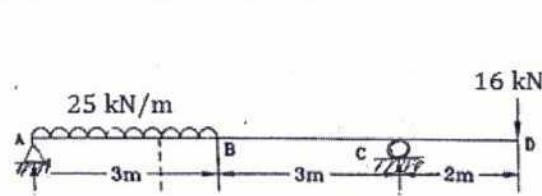

Figure 2
- Q2** Draw the shear force and bending moment diagram for the beam as shown in Figure 2. Mark all the salient points. (12)